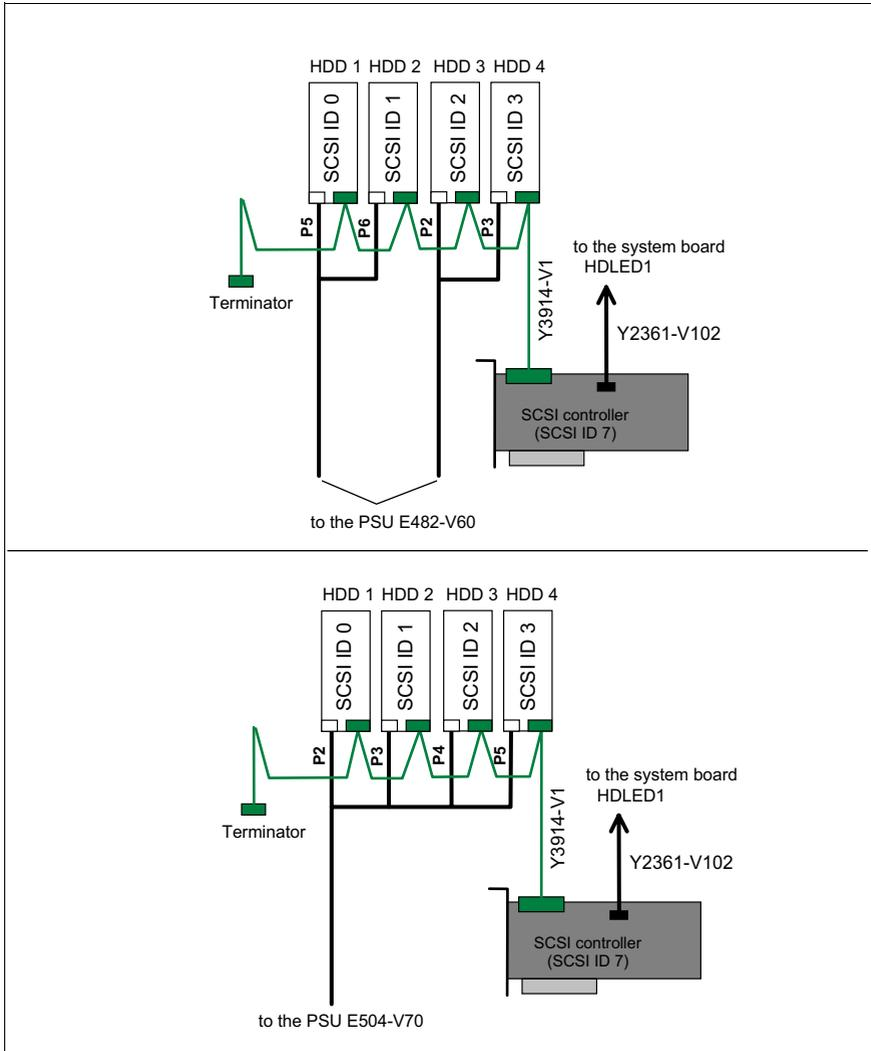

Figure 20: Four SCSI drives: connectors
- ▶ Connect the new SCSI hard disk drives to the power supply unit (see figure 20 on page 38). You should read the accompanying documentation supplied with the drive beforehand.
- ▶ Connect the new drives to one free SCSI connector each of the SCSI cable T26361-Y3914-V1 (see also figure 20 on page 38).